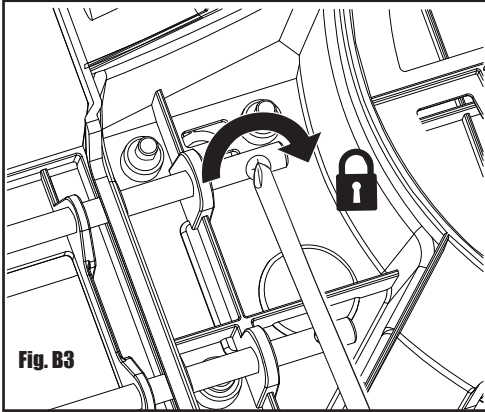

Fig. B3
- 3) Tighten the screw at the end of one side rail to prevent pulling the table extension accidentally. (See Fig. B3)